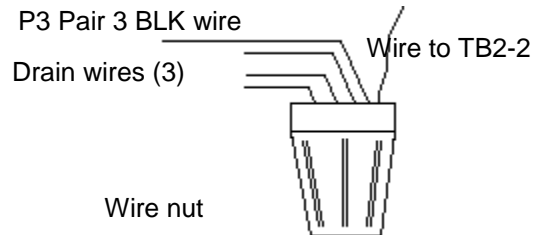

Figure 9: Remote Microphone connections for Speaker Switch 17-95160
- ② Twist BLK wire with all 3 drain wires from 3 TB2 pairs, add another 2-3" piece of stranded wire into a wire nut as shown in Figure 9 below. Insert the loose wire end into TB2-2.